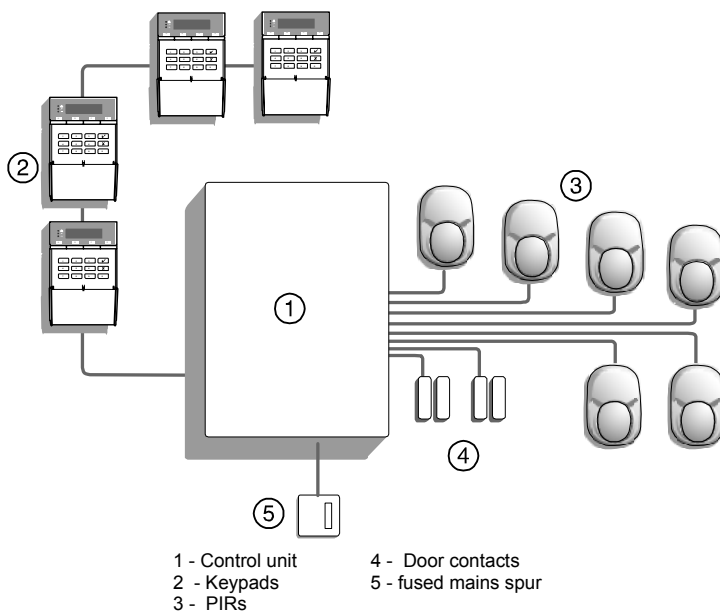

Figure 1. Elements of an Intruder Alarm System
Figure 1 shows how these elements are connected. In this example, the control unit (1) is directly connected to 6 detectors (3) and 2 door contacts (4). There are 4 keypads (2) on the bus.